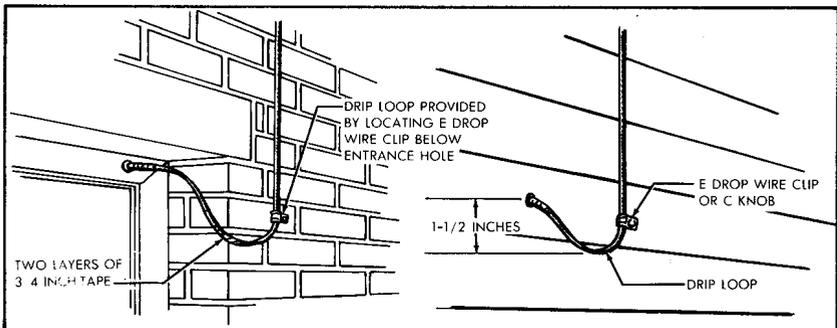

FIGURE 9. Last Attachment, Building Entrance Hole
10.04 See Figure 9 for typical arrangements for last attachments.